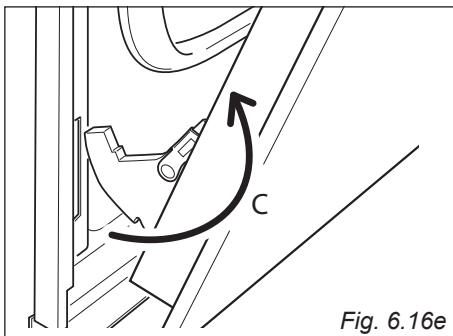

Fig. 6.16e
- Withdraw the hinge hooks from their location following arrow "C" (fig. 6.16e).